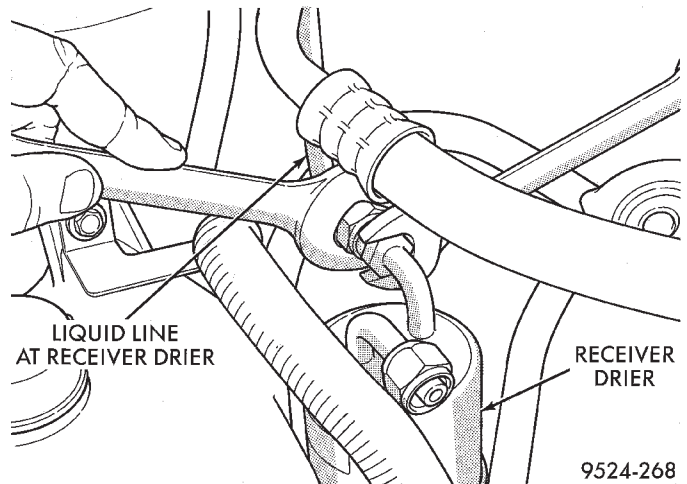

Fig. 60 Liquid Line At Receiver/Drier
- (4) Disconnect liquid line from the receiver/drier (Fig. 60).
- (5) Remove the liquid line from the vehicle.